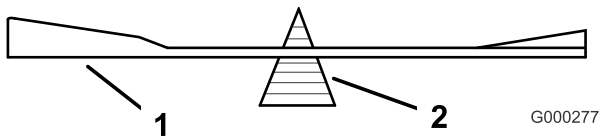
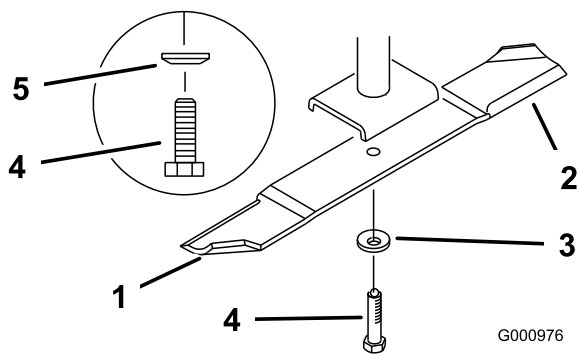

Figure 86
Figure 87
- Remove the blade bolt, spring disk and blade from the spindle shaft (Figure 87).
2. Check the balance of the blade by putting it on a blade balancer (Figure 86). If the blade stays in a horizontal position, the blade is balanced and can be used. If the blade is not balanced, file some metal off the end of the sail area only (Figure 87). Repeat this procedure until the blade is balanced.
1. Install the blade onto the spindle shaft (Figure 87).
2. Install the spring disk and blade bolt. The spring disk cone must be installed toward the bolt head (Figure 87).